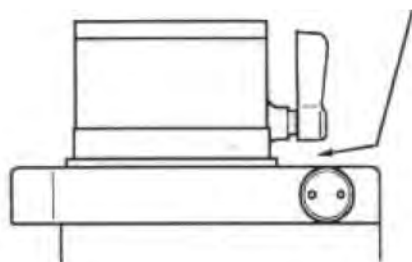

Fig. 6
1. When the tube assembly is to be moved in Dec, loosen the Dec clamp and be careful to keep fingers away from the clamp lever to prevent fingers from being pinched when the clamp is moved. Refer to Fig.6.